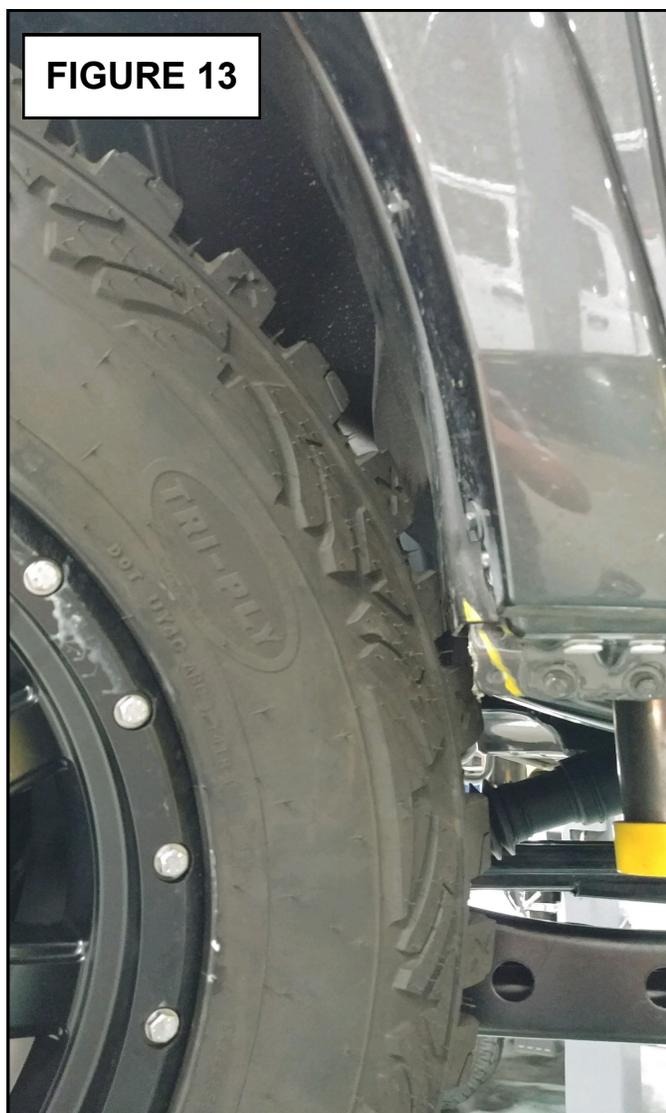

FIGURE 13
53. Using a cut-off wheel or other appropriate tool, trim 1" off the corner of the body pinch weld. See **FIGURE 13**.
57. Reinstall the **OE** track bar to the vehicle and secure using the (2) cam plates (**35-12133**) and supplied **18mm X 90mm** bolt and hardware from hardware pack (**90-60763**). Be sure to install the cam plates with the notch pointed upwards.